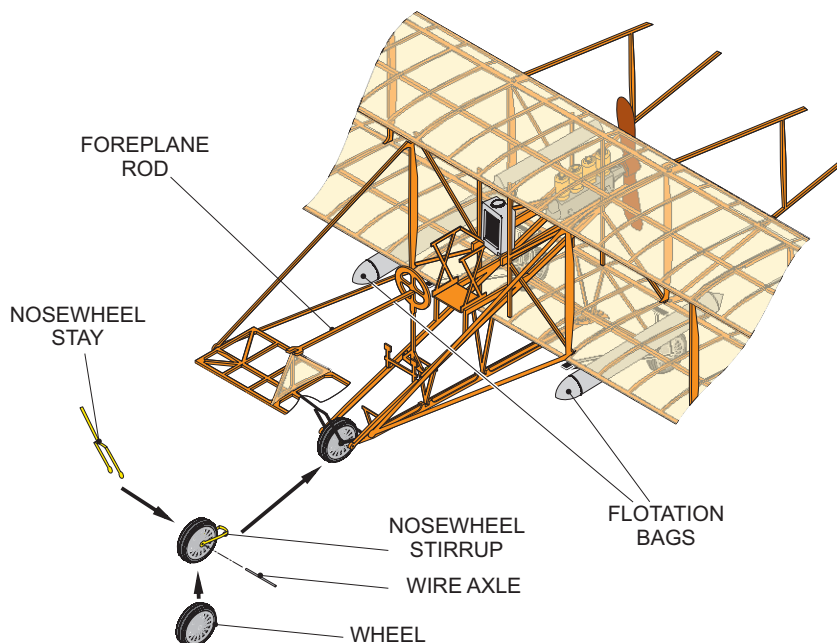

Figure 7
- (1) Remove the nosewheel stay and nosewheel stirrup from the fret and remove any burrs.
- (2) Fold the stay and stirrup as shown in figure 7. Drill holes in the hubs of these items and through the nose of the engine bearers, to suit a wire axle.
- (3) Put the wheel, stay and stirrup together and put them between the engine bearers, then put a wire axle through the assembly and bond it in place. Attach the stirrup to the front of the keel, and attach the stay to the foreplane.